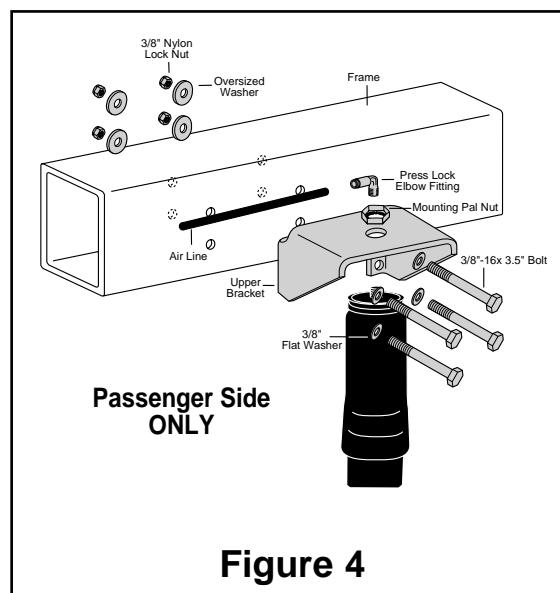

Figure 4
6. The passenger side (US) uses four 3/8-16x3.5" frame bolts mounted through the frame rail as shown in Figure 4.
5. If it is ever suspected that the air bags have bottomed out, increase the pressure (fig. 4).